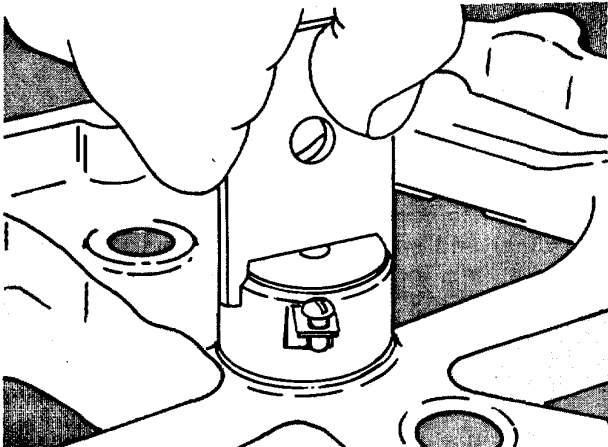

Fig. 20-17. Use The Solenoid Wrench To Loosen The Solenoid Valve.
2. Remove the solenoid valve. Use the solenoid wrench to loosen the solenoid valve, Fig. 20-17.